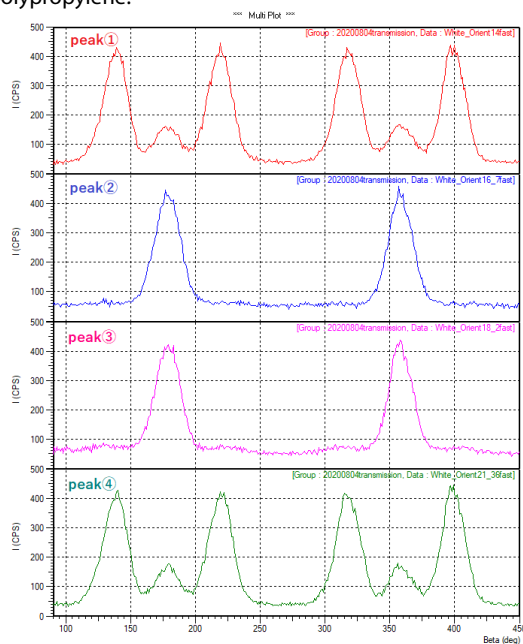

Fig. 2 Results of Degree of Orientation Measurement
Fig. 2 below shows the results of the degree of orientation measurement by the transmission method for peaks ① to ④ of polypropylene.